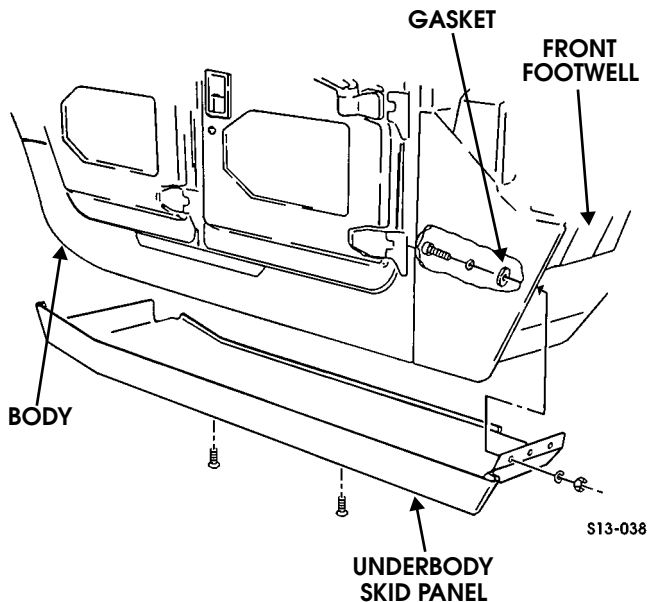

Figure 13-40: Underbody Skid Panel
3. Remove nine hex-head screws securing underbody skid panel to body. Support underbody skid panel with floor jack (Figure 13-40).
3. Secure skid panel to front footwell with three gaskets, washers, bolts, washers, and nuts. Do not tighten nuts (Figure 13-40).
4. Install spacer between rear footwell and underbody skid panel if necessary. Tighten nuts at front and rear footwells to 37 lb-ft (50 N•m) (Figures 13-40 and 13-41).
5. Remove floor jack and secure underbody skid panel to body with nine hex-head screws. Tighten hex-head screws to 37 lb-ft (50 N•m) (Figure 13-40).